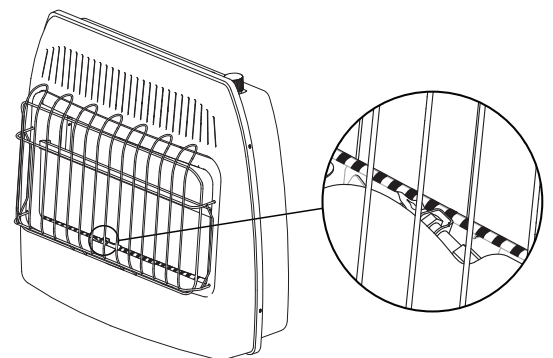

Fig. 24 - Pilot Flame Location
6. With control knob depressed, push down on the ignitor button until the pilot lights. The pilot is visible, centered below the main burner, behind the glass panel. (See Fig. 24 on page 19)
7. Keep control depressed for (30) seconds after pilot lights. Release control knob.
6. With control knob depressed, push down on the ignitor button until the pilot lights. The pilot is visible centered below the main burner, behind the glass panel. (See Fig. 24)
7. Keep control knob depressed for (30) seconds after pilot lights. Release control knob.